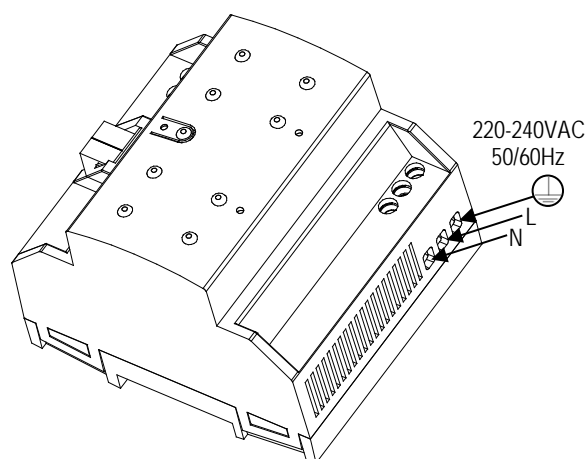

Figure 2: ZPS640HIC230 installation and connection
- Main power must be connected to L, N and ground terminals, in accordance with the schematic represented in figure 2.